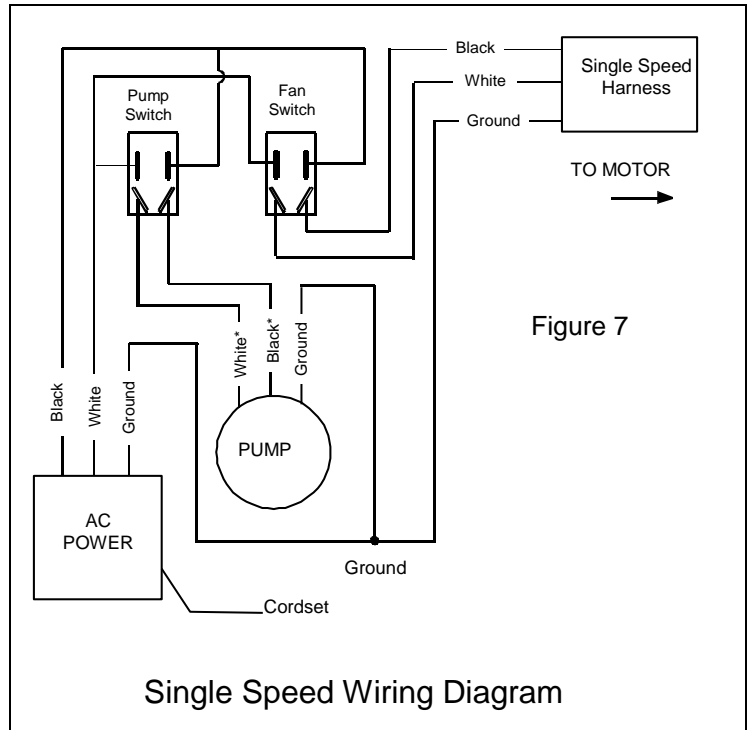

Figure 7
13. Connect pump power cord to terminals of electrical box as shown in wiring Diagrams. See Figures 7 or 8.